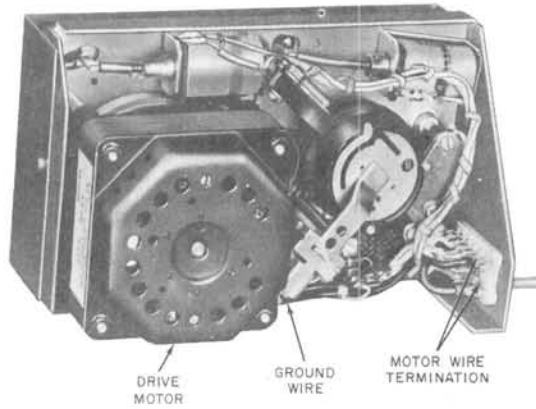

Fig. 5—KS-19245, List 2 Recorder, Motor Side
**4.01 KS-19245, List 2 Recorder (Fig. 5):**
#### 5. REPLACEMENT OF BELT ON KS-19245, LIST 2 RECORDER (Fig. 5)